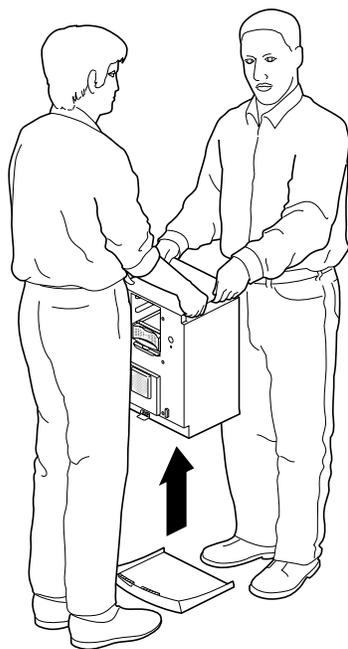

Figure 7-35 Lifting the Octane2 Workstation off the Plastic Base
4. Lift the chassis straight up and off the base, as shown in Figure 7-35.